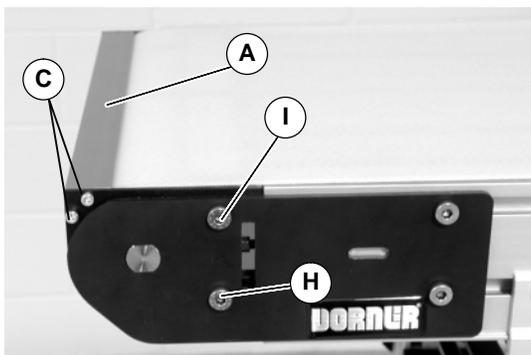

Figure 7
- Place transfer plate support (A of Figure 7) on end of conveyor and attach with screws (C) tighten to 50 in-lbs (5.6 N-m).
- Tighten screws (H and I of Figure 7) to 146 in-lbs (16.5 N-m).